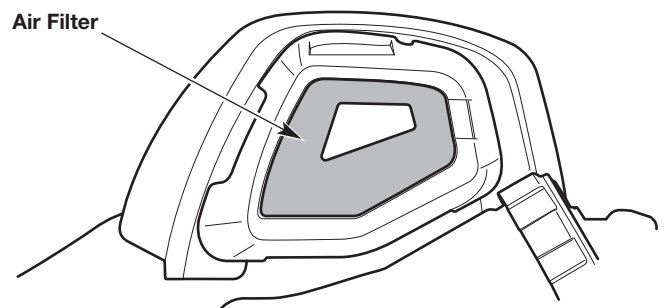

Fig. 37
2. Remove the air filter (Fig. 37).
6. Reinstall the air filter (Fig. 37).